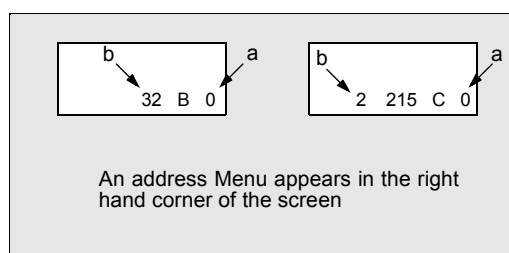

Figure 14. **Serviceman Mode Menu Adjustments.**
Note: *Only the applicable settings for the Receiver serviced will be available (See a in Fig. 14).*
1. Press **Channel Up/Down** on the **Remote Control** to select one of the available Service Adjustments (a in Fig. 14).
Note: Write Down the original value set (b in Fig. 14) for each address before modifying anything. It is easy to erroneously adjust the wrong item.
2. Press **Volume Up/Down** on the **Remote Control** to adjust the level of the selected Service Adjustment (b in Fig. 14).
1. Press Channel Up/Down on the Remote Control to select one of the available Service Adjustments (a in Fig. 14).
- Note:** Write Down the original value set (b in Fig. 14) for each address before modifying anything. It is easy to erroneously adjust the wrong item.
2. Press Volume Up/Down on the Remote Control to adjust the level of the selected Service Adjustment (b in Fig. 14).
Note: Write Down the original value set (**b** in Fig. 14) for each address before modifying anything. It is easy to erroneously adjust the wrong item.